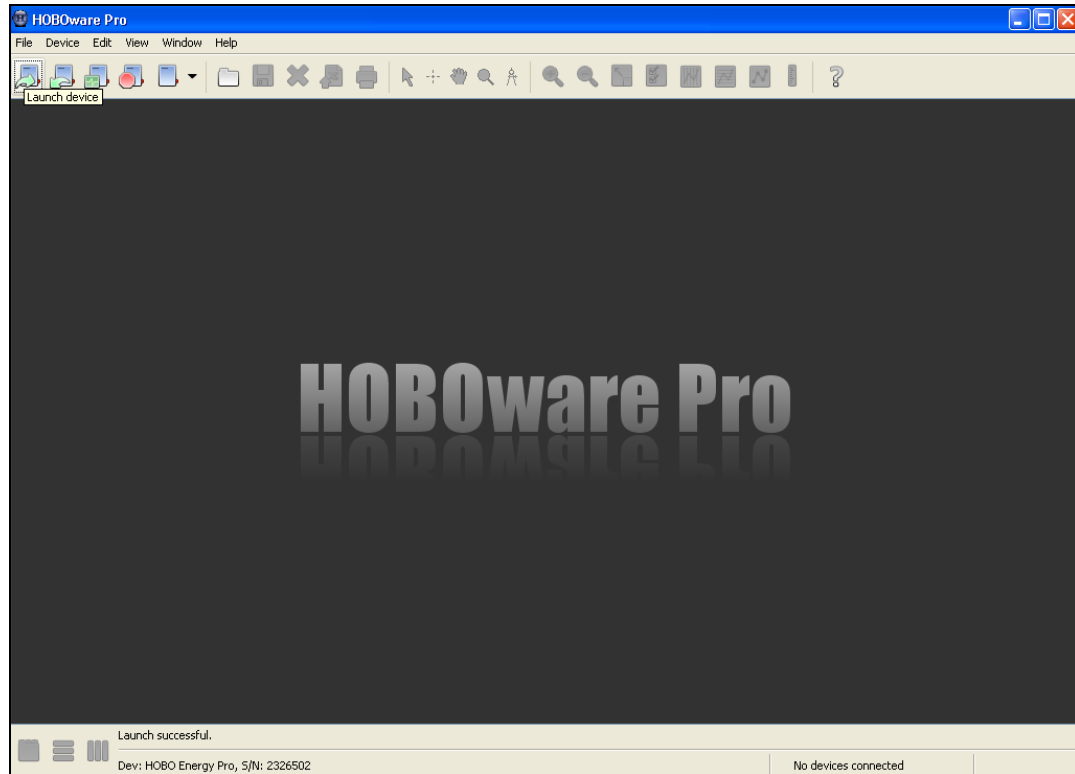

Figure 2. Launching the Data Logger by Pushing the Launch Device Button
3. Launch the Data Logger by pushing the Launch Device button as seen in Figure 2 below or with the Hoboware application on the computer.